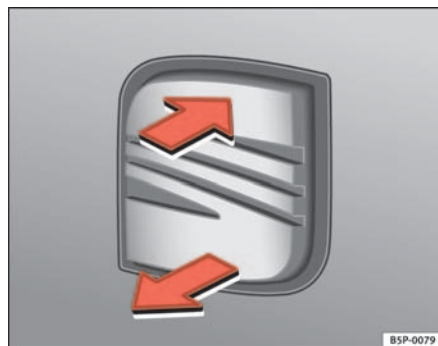

Fig. 68 Tailgate: Opening from the outside
- Pull on the release lever and lift the tailgate ⇒ fig. 68. The tailgate will then open.